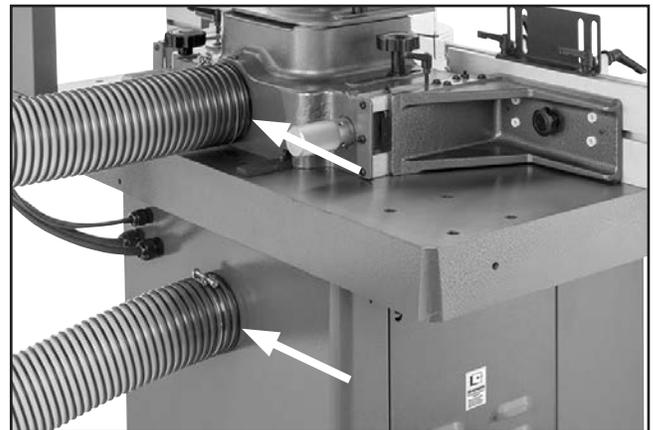

Figure 18. Attached dust hoses.
- Fit 4" dust hoses over two dust ports and secure in place with hose clamps (see **Figure 18**).